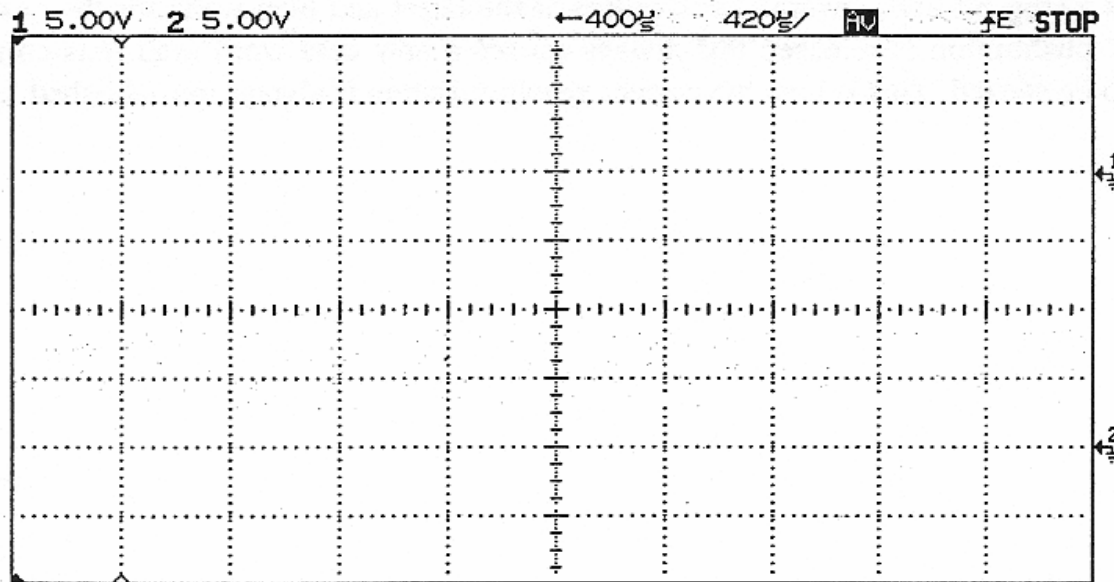

Figure 3-2w: Data signal (above) and synchronous signal (below)
- In the lower section of the oscilloscope screen the clock signal appears as a square wave with an amplitude of approx. 5V and a period duration of approx. $417\mu\text{s}$ ($1/2400\text{ s}$). The data signal is displayed in the upper section. Using the variable time-base deflection of the oscilloscope, the image can be set so that precisely 10 clock pulses are visible on the screen. Then a clock pulse is exactly one division unit in length. Please make a sketch of the screen in Figure 3-2w on the worksheet.
- Reset the baudrate switch to 2400 bit/s. The oscilloscope is triggered to the synchronous signal (channel 2). Set the bit pattern to 00111011 and make a sketch of the oscilloscope screen in Figure 3-2w.